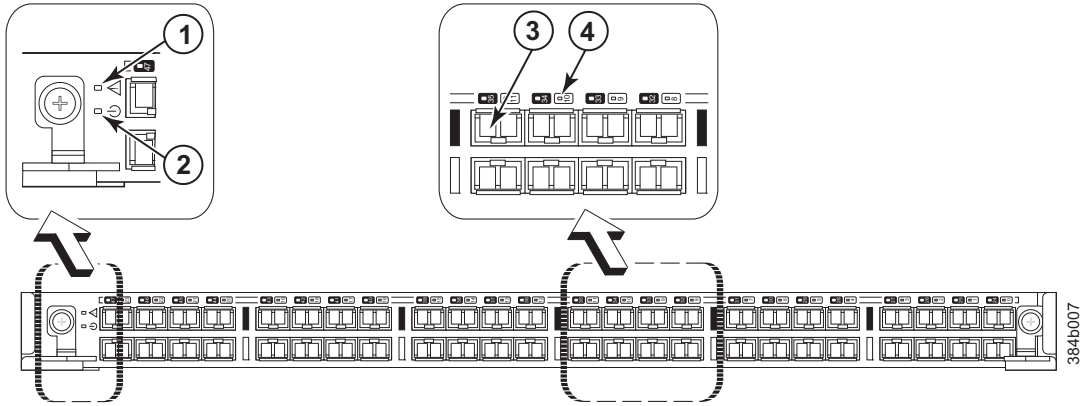

Figure 21. FC8-48 port blade
- Figure 21 on page 51 illustrates the FC8-48 port blade